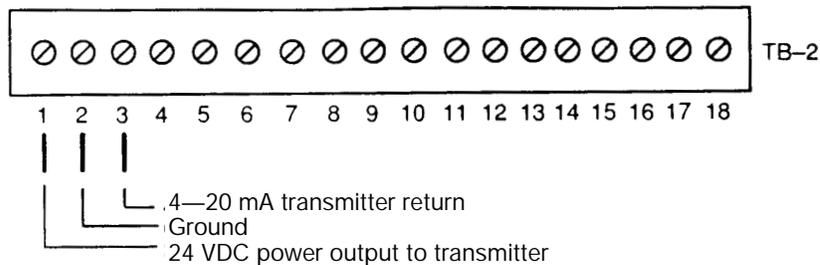

FIGURE 3
2. Connect the transmitter wires as shown in Figure 3 . A two wire transmitter should be powered with the 24v DC supply from the EPC-1 by connecting the positive wire to terminal number 1 and the other transmitter wire to terminal 3 of TB-2. Twisted pair wires can be used for connecting the transmitter to the EPC-1. If a shielded pair of wires is used, connect the shield to terminal 2 of TB-2. Jumper at J5/J6 must be on J5. For 4-wire transmitters, see Appendix B.